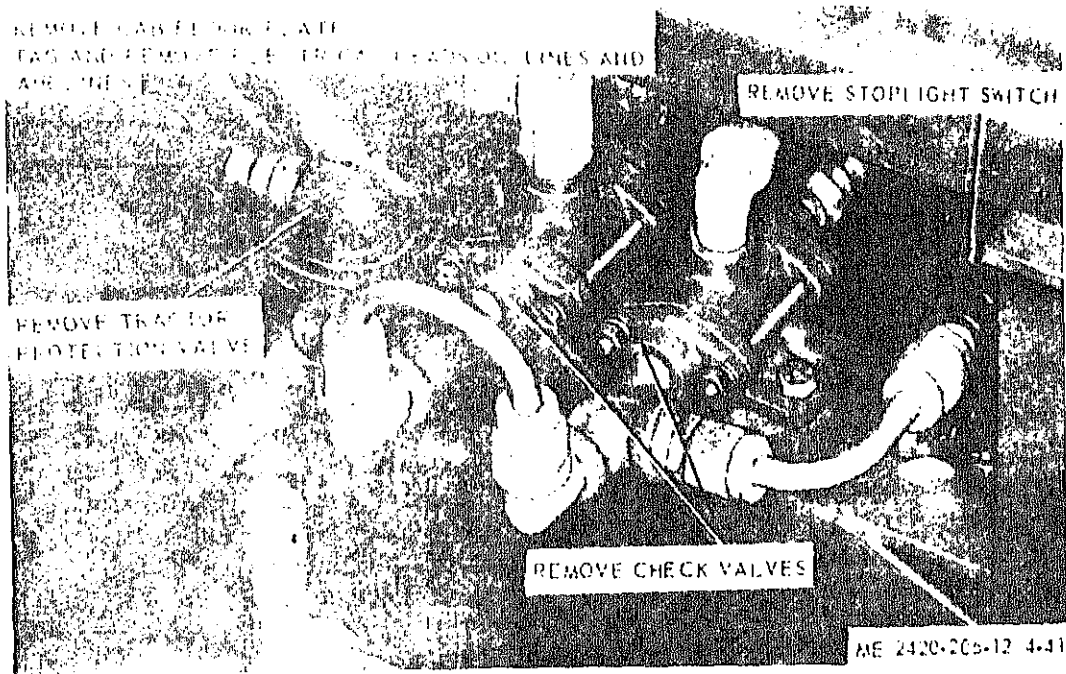

Figure 4-41. Check and protection valves and stoplight switch, removal and installation.
a. *Removal.* Remove check and protection valves and stoplight switch as illustrated in figure 4-41.
(1) Clean all parts and dry thoroughly.
(2) Inspect parts for cracks, breaks and other damage. Replace defective parts as necessary.
c. *Installation.* Install parts as illustrated figure 4-41.